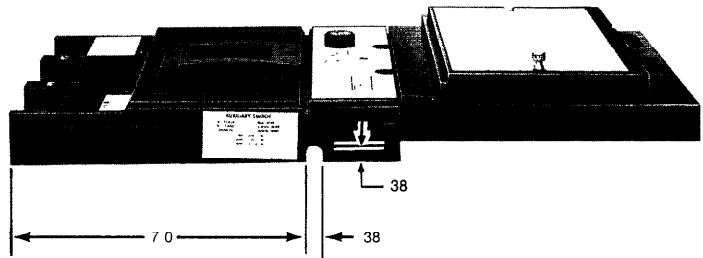

Figure 5
5. Slot cover for lead exit as shown and affix label (Figure 5)